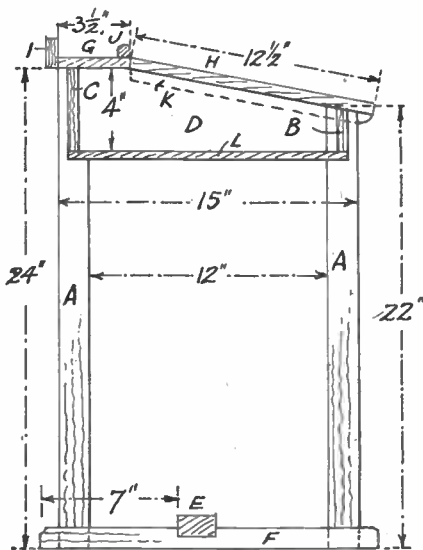

Fig. 1
The rear pair of legs are cut square each end, while the top of the front pair will slope according to the slope of the desk top. Figs. 1 and 2 being a section through the desk, and a front view, give all the necessary details for the assembly. The mortise and tenon joint used in connecting the top rails (B), (C) and (D) is shown in Fig. 3, and each will need some little care in setting out to obtain a good fit. The plan in Fig. 4 shows how the ends of the tenons are mitred to fit in the mortises of the legs. The lower ends of the legs will be tenoned into the rails (F), while the cross footrest, rail (E), will be cogged into them. Details of these joints are given in Fig. 5.